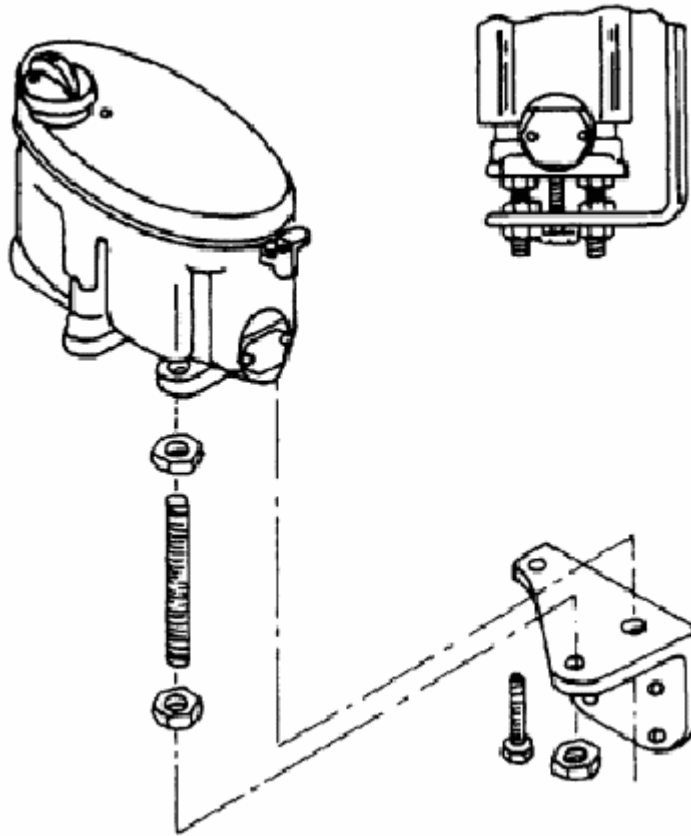

Fig. 10
1. Fit and lightly secure oil control valve support bracket to cooker LH side panel. See Fig.10. Using a spirit level, check that the horizontal face of the support bracket is level in all directions, then tighten and secure bracket fixing screws.
5. Now turn the cooker oil control valve knob C on the oil control valve to No.6 (High Fire) and check rate - AGAIN ALLOW TIME AS ABOVE FOR THE OIL RATE TO SETTLE. If incorrect adjust high fire rate by turning the high fire adjusting screw as shown on the cover plate. See Fig.10. This should be 12cc/min for the boiler model or 8.5 to 9.0 cc/min for the non boiler model. ALLOW TIME FOR RATE TO SETTLE.